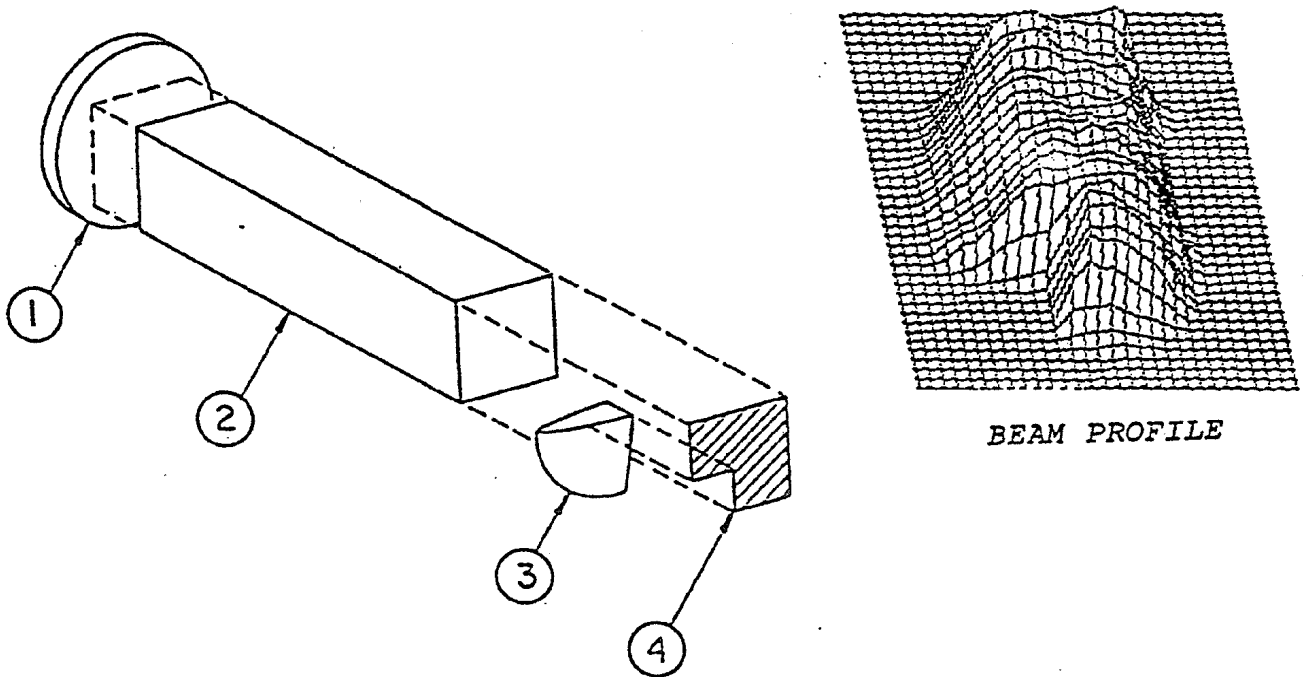

Figure 2. Schematic of resonator and 3-D beam profile.
In fact, this mirror does not have the conventional circular shape of axial symmetry, instead it is a 90° circular segment with a convex surface oriented towards the plasma tube. This mirror segment intercepts, with its 90° edge, a small fraction of the laser beam (~ 20%) in order to supply the necessary optical feedback into the amplifying medium. Actually, it is not the convex mirror, but the lack of that mirror surface which allows the beam to exit from the unstable resonator. The laser beam quality is enhanced with the plasma tube having slightly tilted windows. The orientation normal to the windows forms an angle of about 3° with respect to the tube axis. This also avoids unwanted multiple reflections which would contribute to interference fringes within the beam and produce a deteriorated angular beam divergence. In addition, there are antireflection coatings on both sides of the two windows of this plasma tube. This minimizes the overall reflection losses of the cavity. The very weak remaining reflection can only give the appearance of a very faint beam being off axis, but which is readily blocked by the exit aperture of the beam attenuator assembly. The laser resonator is shown in Figure 2, on page 14, together with the concomitant beam shape.
In the laser construction, use is made of the particular property of the beam collimation achievable with an unstable optical resonator. Such a resonator is formed by placing the laser medium, that is the plasma tube, between one concave mirror with the function of a total reflector and another convex mirror having a smaller radius of curvature than the former (Figure 2). The best beam collimation is obtained when the two mirrors are confocal, meaning the focal points of these two mirrors are coincident. Should the mirror separation be increased or decreased about this confocal position, the output beam of the laser will become either convergent or divergent correspondingly.
At a distance of 6 to 12 inches from the output aperture, a well aligned beam should appear similar to that shown in Figure 2. The beam is longer in the vertical (Y) dimension than in the horizontal (X) dimension. It should appear somewhat uniformly bright with a well defined notch due to the 1/4 mirror output coupler. Some stray light of much lower intensity will always remain in a two inch or so diameter area about the main beam. There should be very little shading or what may appear as multiple beam images.